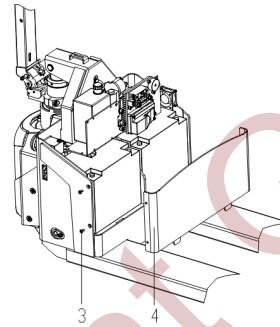

Fig.7
- (Fig 7) Loose screw3, remove rear cover4;